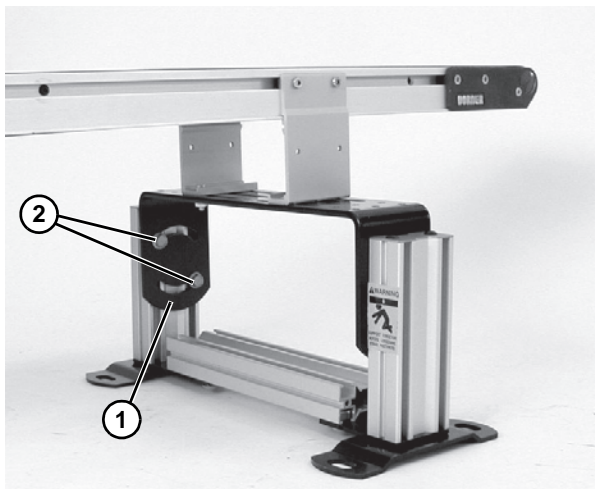

Figure 14
1. Loosen mounting bracket (Figure 14, item 1) flange head hex screws (Figure 14, item 2).
2. Raise or lower mounting bracket (Figure 14, item 1) to the required height.
Failure to secure screws (Figure 14, item 2) may cause conveyor sections to drop down causing severe injury.
TIGHTEN SCREWS (Figure 14, item 2) **AFTER ADJUSTMENT.**
3. Tighten flange head hex screws (Figure 14, item 2) to 150 in-lb (17 N-m).